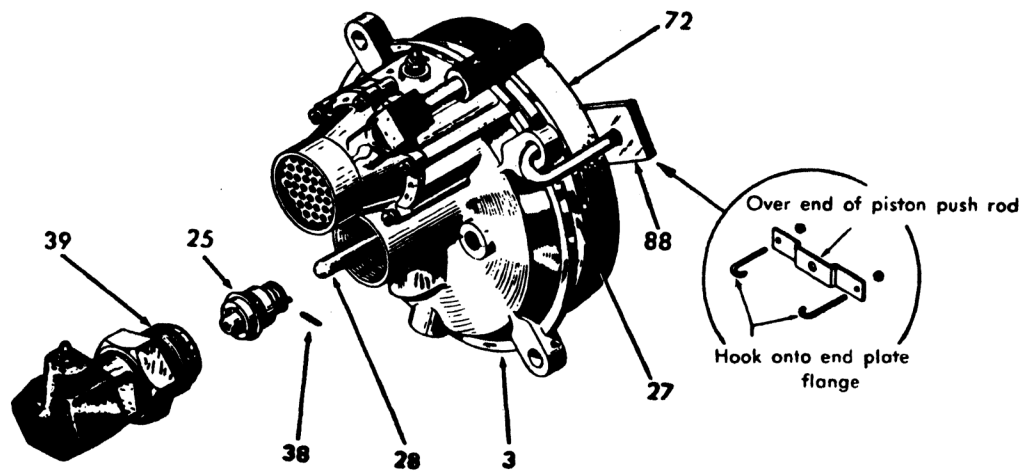

Fig. 10
1. Remove assembly ring from power piston (72) and coat push rod (28) with brake fluid. With large coil of return spring (27) against end plate, push rod (28) through seal and washer parts of end plate. Hold in place with special bracket AW 76957 and hook bolts AW 76956 (88) which were used in disassembly.
2. Pull back spring (25) and attach piston to push rod (28) with new pin (38).
3. Coat bore of cylinder (39, fig. 10, page 15) with brake fluid and insert piston (25).
4. Screw slave cylinder assembly into end plate (3) by hand as far as possible. Tighten tube nut against end plate.